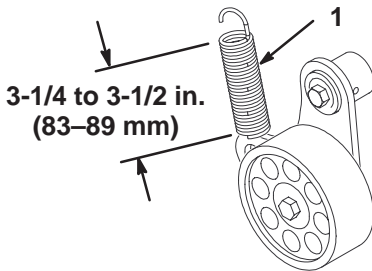
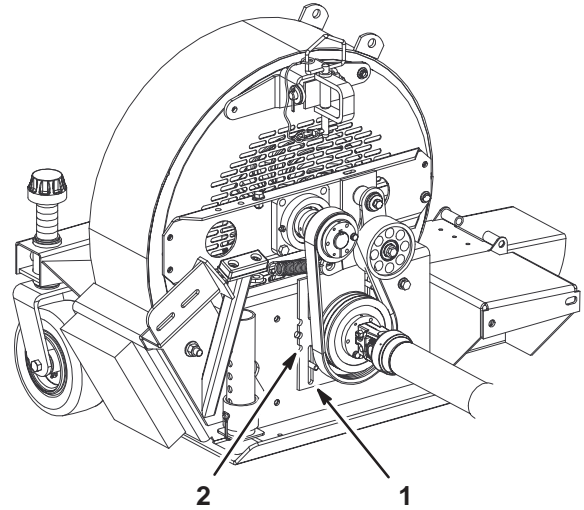

Figure 12
Figure 13
2. A new belt is properly tensioned when the idler spring body is extended to a length of 3-1/4 to 3-1/2 in. (83–89 mm) (Fig. 12).
- B. Move the belt tensioner (Fig. 13) down until the idler spring body is extended to a length of 3-1/4 to 3-1/2 in. (83–89 mm) (Fig. 12), then tighten the nuts.